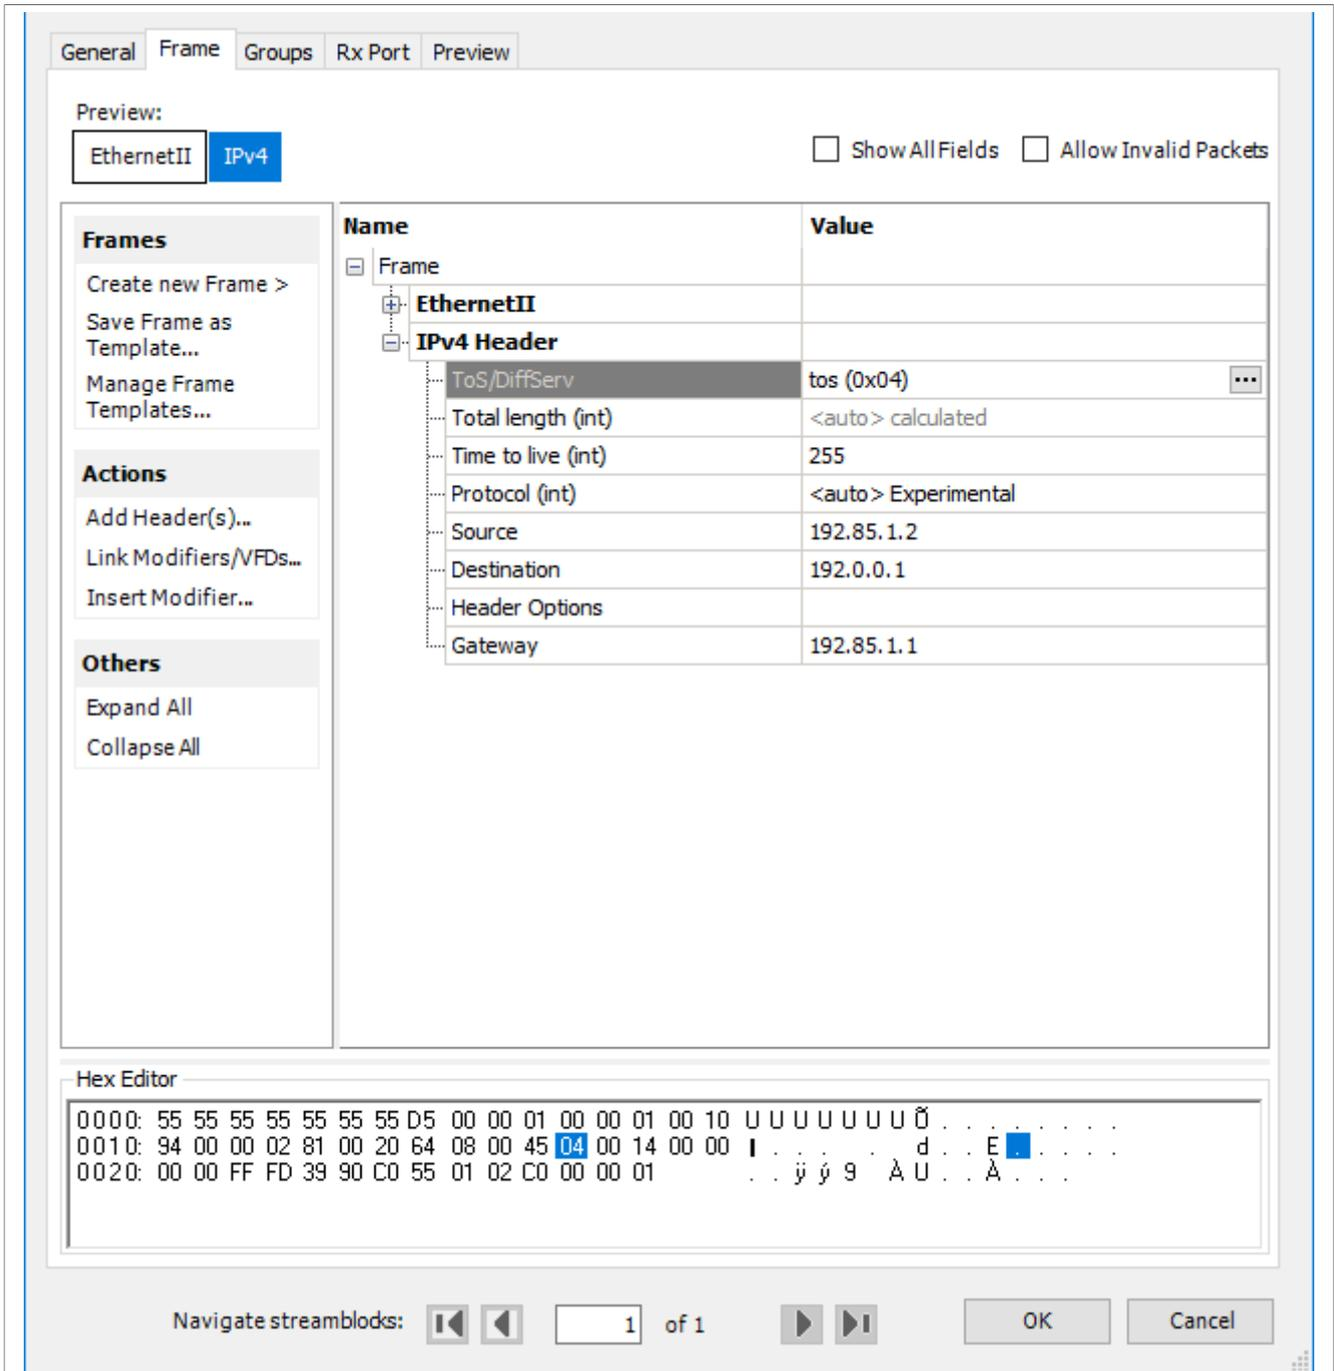

Figure 98. Setting DSCP value on TestCenter
2. Set the DSCP value on TestCenter. DSCP value is the upper six bits of ToS in IP header, set the DSCP value on TestCenter as shown in Figure 98.